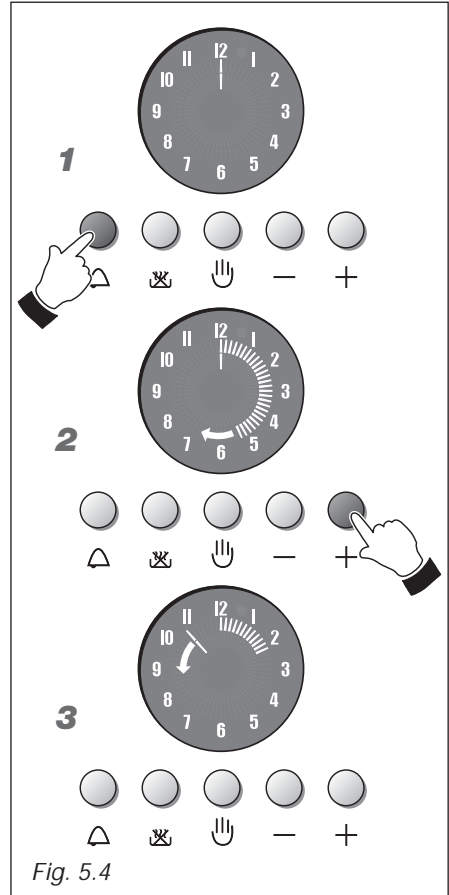

Fig. 5.4
TIMER (fig. 5.4)
1. Fig. 5.4 - To set the timer program press \triangle button.
2. Fig. 5.4 - Press button \oplus within 7 seconds and set the required time. Outer luminous hands light up. Press button \ominus to decrease the time.
3. Fig. 5.4 - The countdown starts immediately and an anti-clockwise luminous hand lights up on the display. On each rotation (1 minute) of this hand one outer luminous hand goes out.